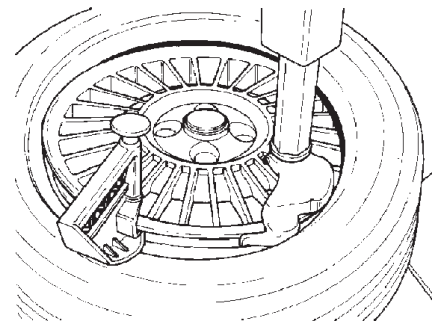

Fig. 4.2-4
D. Position the bead clamp to hold the tire bead into the rim drop centre (Fig. 4.2-4).